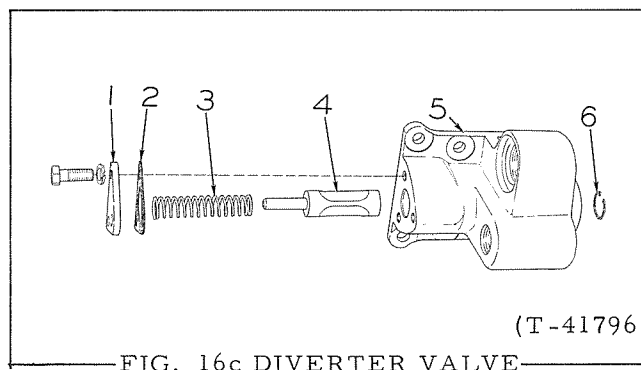

FIG. 16c DIVERTER VALVE
- Place diverter valve on a clean work bench; remove cover plate Fig. 16c (1) and gasket (2); withdraw spring (3) and spool (4) from housing.
- Insert spool, Fig. 16c (4) in housing against snap ring (6); insert spring (3) over spool end.
- Install cover plate (1) and gasket (2); tighten capscrews securely.